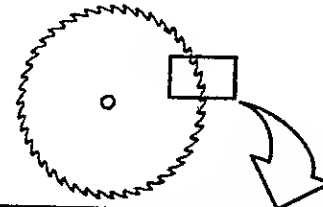

Figure 30
2. File or grind each edge in the same manner to maintain a balanced blade. Figure 30.
To prevent the blade from cracking or flying apart after sharpening, do not file within 1/4 inch of the radii shown in Figure 30.
3. File or grind each edge in the same manner to maintain a balanced blade. Figure 30.